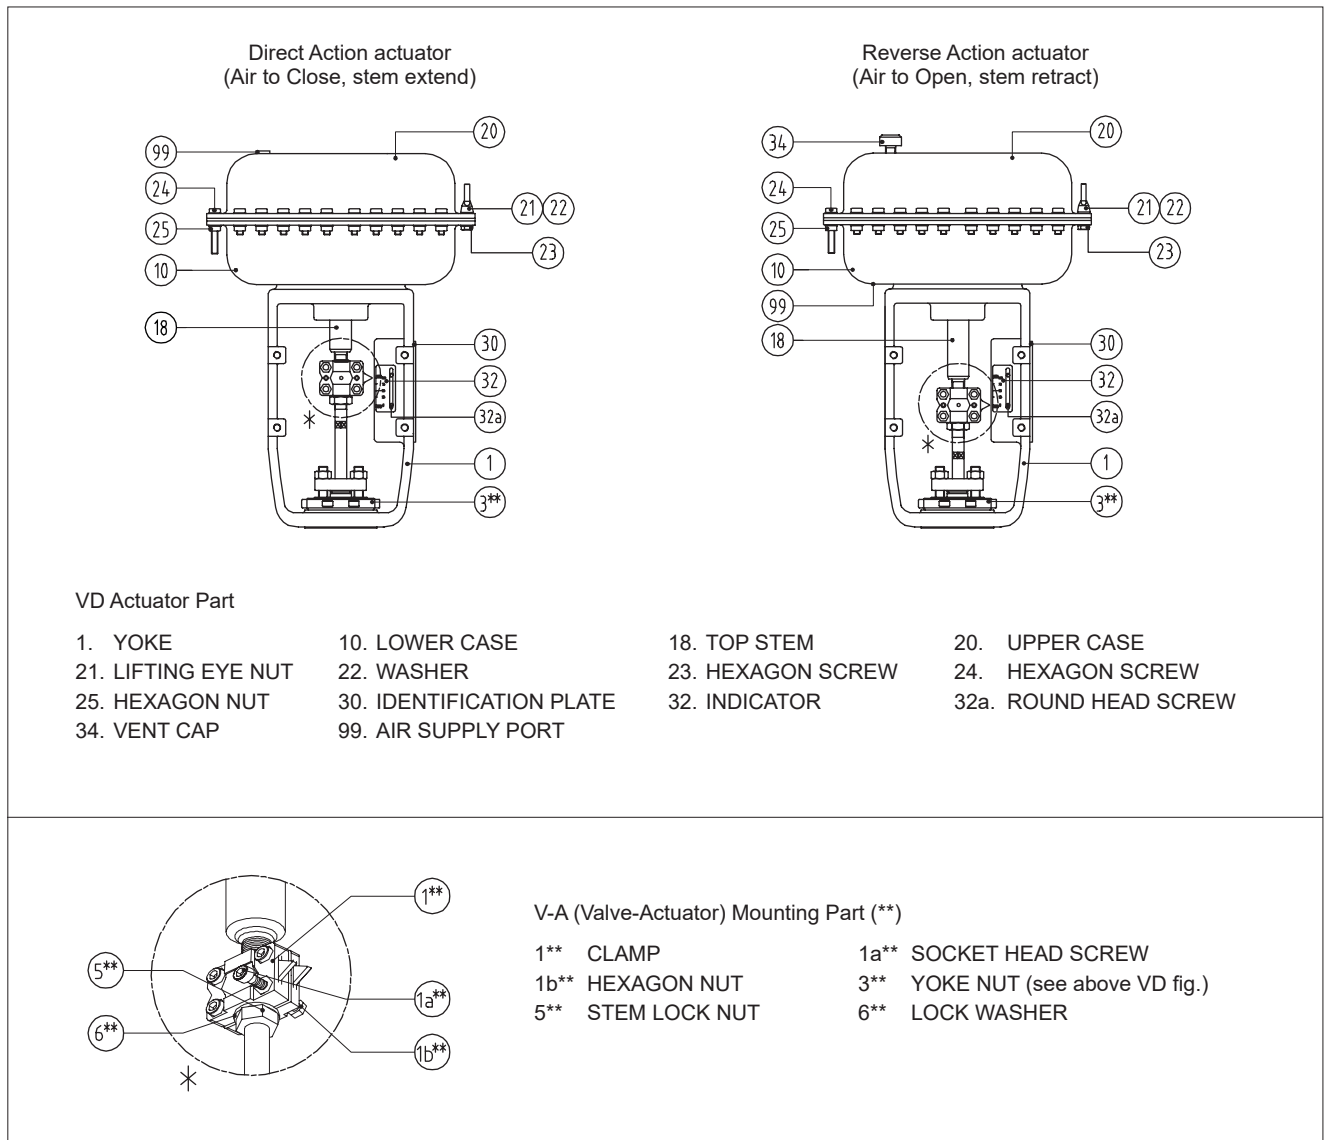

Fig. 12 VD Actuator
A. Actuator removal for Reverse <air to open, stem retract> actuator (Fig. 12)
B. Actuator removal for Direct <air to close, stem extend> actuator (Fig. 12)